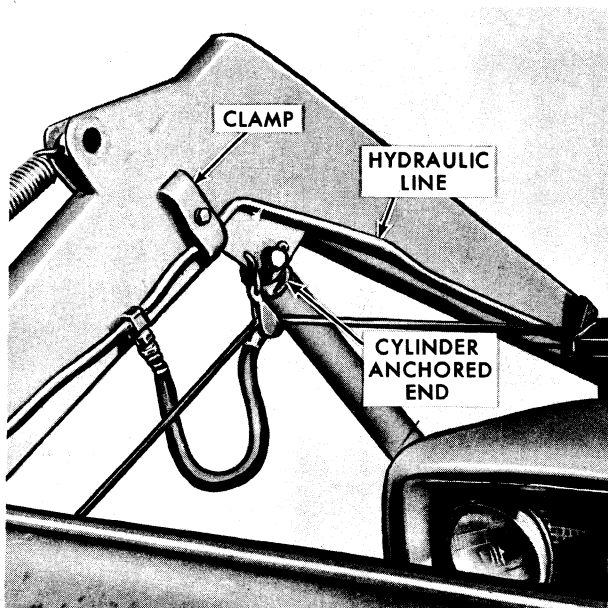

Figure 22
- Remove the cover plate on the hydraulic control valve and install the remote control valve, Figure 22, making sure the four "O" rings are in place on the valve ports. Insert the three bolts provided with the